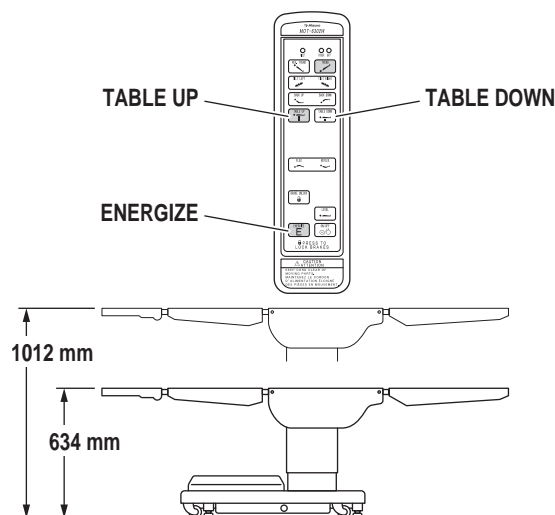

Figure 2-11. Elevation Function
**e. Elevation** To raise table top, press the ENERGIZE button and then the TABLE UP button (figure 2-11). The table will lift a patient weight of 450kg up to a maximum height of 1012mm. To lower the table top, press the ENERGIZE button and then the TABLE DOWN button. The table top will go down to a minimum height of 634mm.